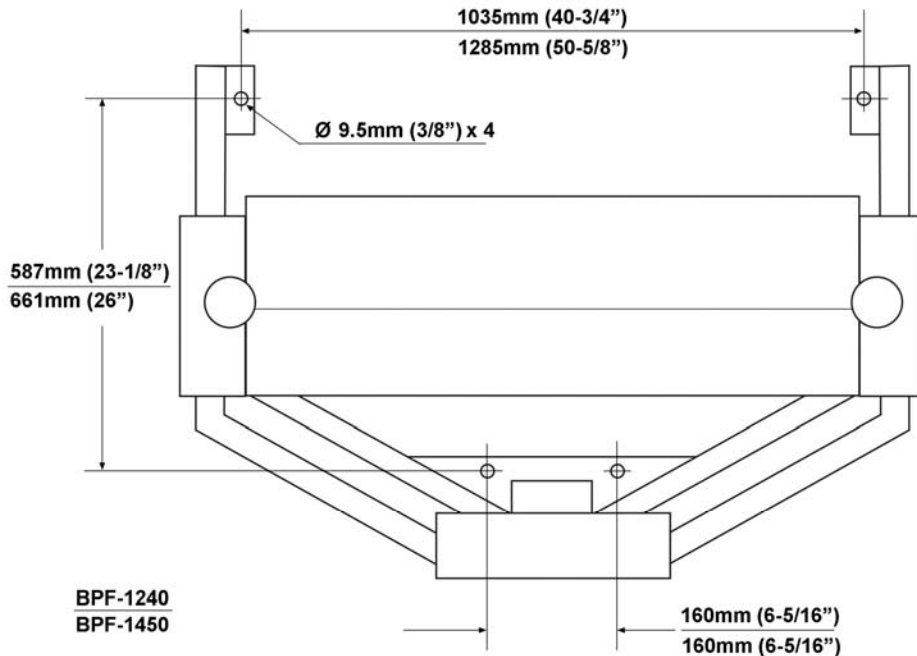

Figure 2
2. Attach the two support legs (11) with two screws each.
3. Secure machine to floor using lag screws or similar system. See diagram, Figure 2.